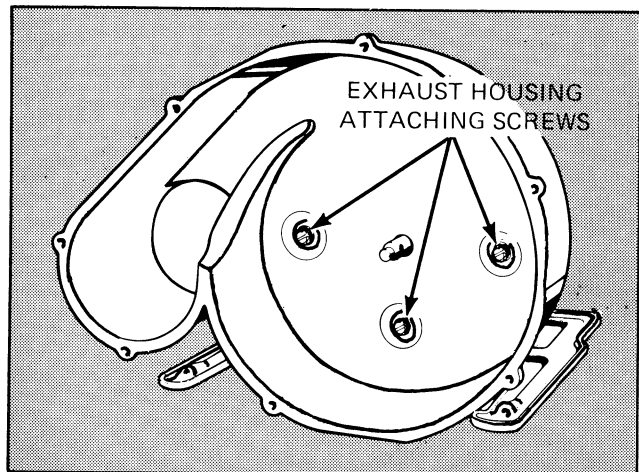

Figure 42F
3. Remove three hex screws securing the exhaust housing to the bracket, see *Figure 42F*.